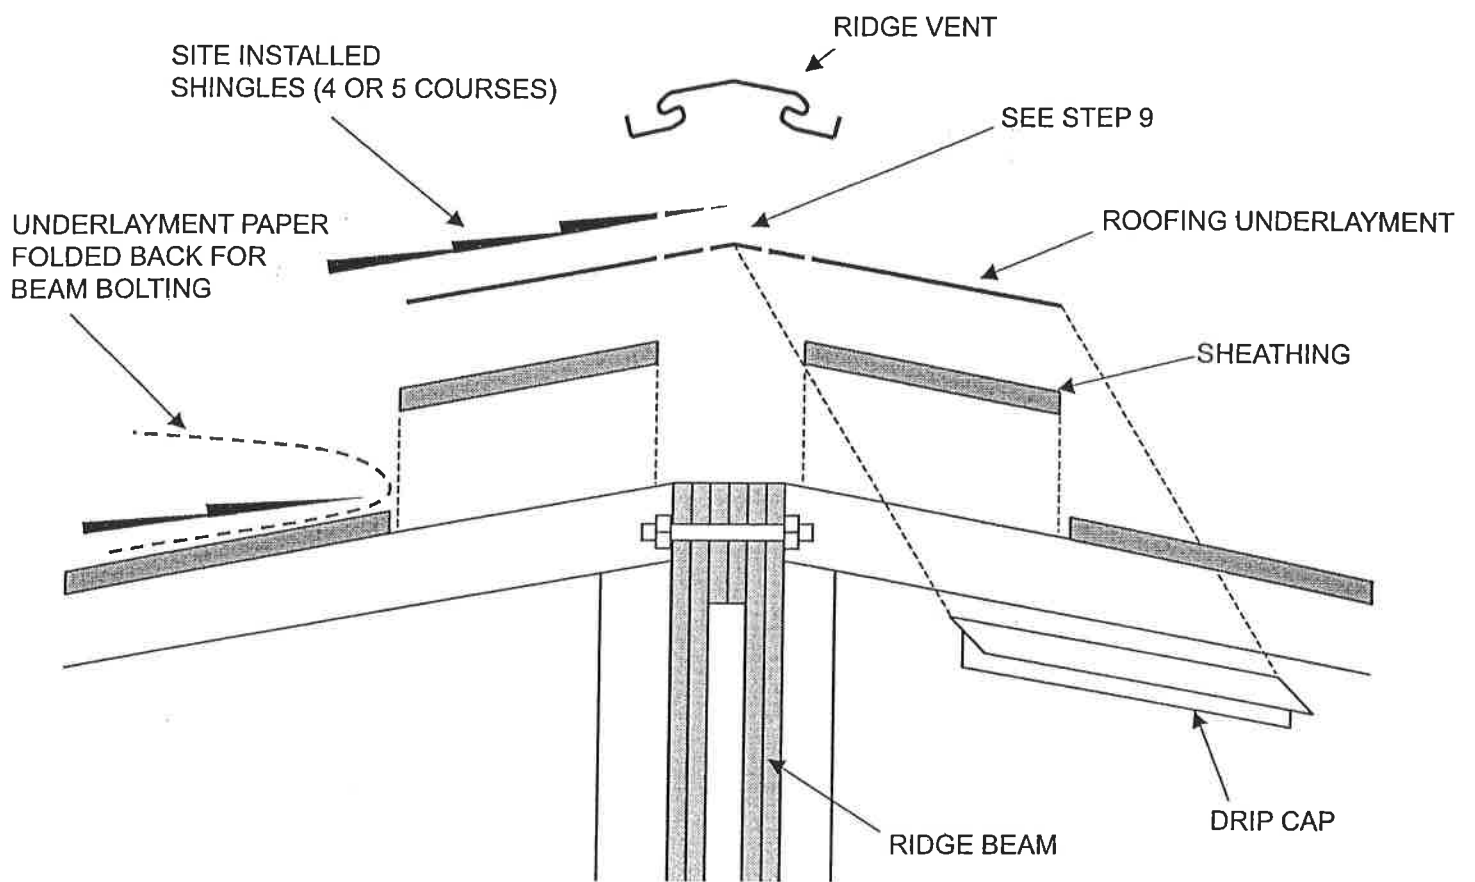

FIG. 1
4. See figure 1. Replace sheathing using 12Ga.x7/16"x1-1/2" staples or 8d twist nails 4 inches on center at butt joints and at each truss between joints. Maintain the gaps between the sheathing and the ridge beam where the ridge vent is to be installed.